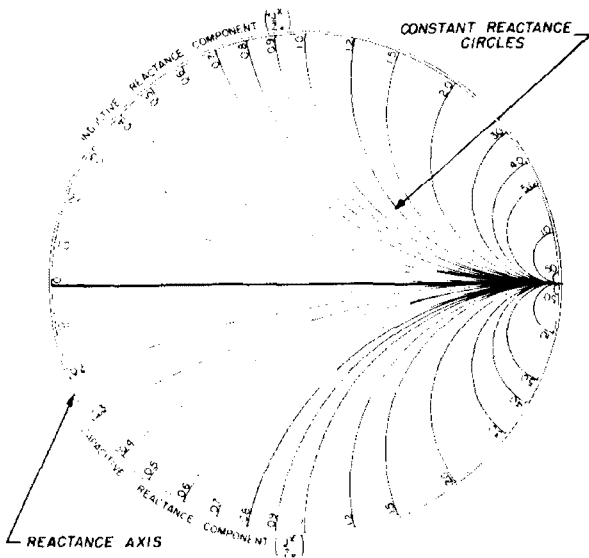

fig. 2. Smith chart reactance scales.
The capacitor is formed by a thin layer of teflon or polyethylene between C15 and partition 2 (**fig. 4**). The mounting screws land inside the ends of the two 1/4-inch copper tubes, L11 and L12. The heads of the screws are insulated from C15 plate with small washers. The diode pin contact may be salvaged from an old bakelite octal wafer socket or may be fashioned from a small piece of tinplate. Solder a length of no. 18 tinned copper wire to the contact (L14), bend as shown in **fig. 2**, and solder to partition 2 in the signal trough line. It's not advisable to use a good diode while soldering, as it could be damaged by heat. Assemble the diode mount, C15, and check for shorts before inserting the diode.
The oscillator section should now be soldered to the trough line portion of the converter. Mount Q5 with the collector lead as shown in fig. 2. The overall length of the lead to the top of the feed-through capacitor should be about one inch. Apply power and peak C10 for maximum Q5 collector current. Adjust link L9 for 2.5-3 mA Q5 collector current, rechecking C10 tuning. Mount the i-f preamp and connect. Tune the LO cavity screw for maximum mixer diode current, which should be 0.5-1 mA. If the tuning
3. **Diode coupling.** The area enclosed by the link should be close to that shown in fig. 2. Try altering the area by varying lead length in 1/8-inch steps. Once again, this will depend on the diode.
resistance point, but centered off the edge of the chart (fig. 2). The large outer rim of the chart is calibrated in relative reactance and is called the "reactance axis." Any point along the same constant-reactance circle has the same reactive value as the point where it intersects the reactance axis on the rim of the chart. All points on the Smith chart above the axis of reals contain an inductive-reactive component and those below the axis of reals contain a capacitive-reactive component. Since the calibration points go from zero to infinity, *any* complex impedance can be plotted on the chart.